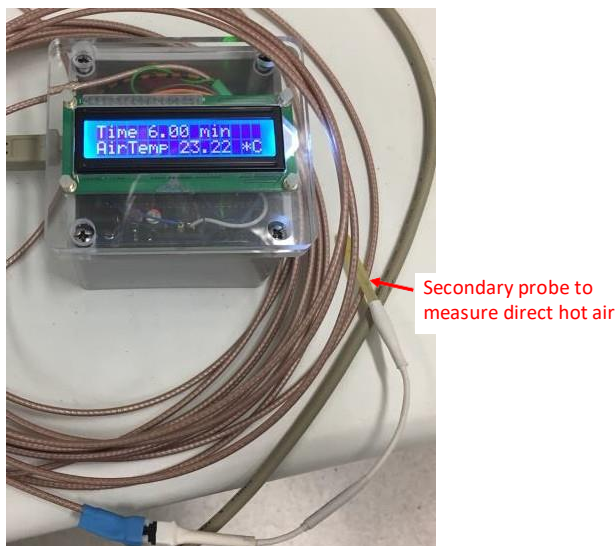

Fig. 3
4. a secondary fail-safe external hot air monitor, this will alarm at 50°C (Fig 3)
- c. Connect the secondary hot air monitor to USB power (Fig 3). The secondary probe will need to be placed at the air outlet, behind the mouse rear.
- e. Check the hot air coming from the heating tube using the secondary probe (Fig. 3). - If the hot air goes up to 50°C then the system is working fine. **If it goes over 50°C then it is too hot and the monitor should beep. The heating element duty cycle will need to be reduced to 30-35%.** If the temperature does not increase, check whether the heating light is blinking in the back of heater (Fig.3). If not, check all connections and power switches.